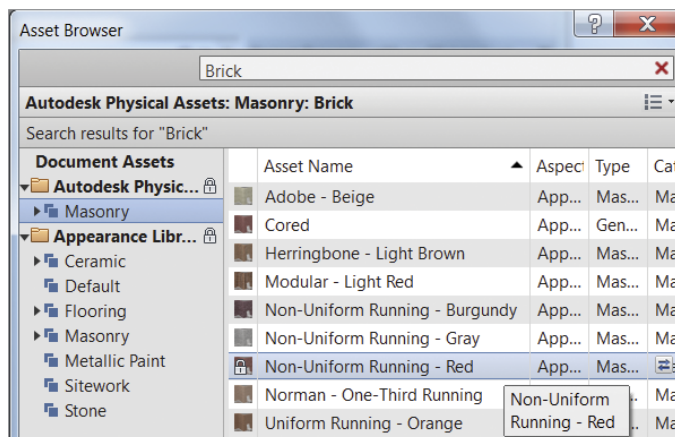

FIGURE 9.3 The Asset Browser
5. The Asset Browser dialog appears (Figure 9.3), and it also has a search field at the top. Type in **Brick**; then click the **Masonry** option under the Autodesk Physical Assets folder and you'll see a variety of options. You should drag the column widths so you can see the material asset names. Double-click the **Non-Uniform Running - Red** brick material.